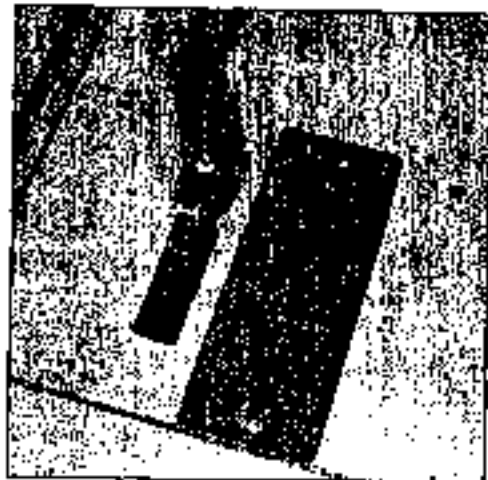

Fig. 4-53 Emergency push button
6.3 EMERGENCY GEAR EXTENSION PUSH BUTTON (See Fig 4-53, Aircraft S/N 652SA and 661SA)